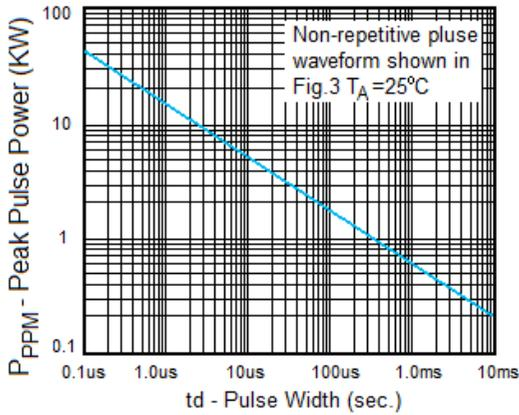

Fig. 1 Peak Pulse Power Rating
- (1) V_{BR} measured after I_T applied for 300 μ s., I_T = square wave pulse or equivalent.
- (2) Surge Current Waveform per Figure 5 and Derate per Figure 1
- (3) A Transient suppressor is normally selected according to the reverse " Stand-off Voltage " (V_{RWM}) which should be equal to or greater than the D.C. or continuous peak operating voltage level.
- (1) V_{BR} measured after I_T applied for 300 μs., I_T = square wave pulse or equivalent.
- (3) A Transient suppressor is normally selected according to the reverse " Stand-off Voltage " (V_{RWM}) which should be equal to or greater then the D.C. or continuous peak operating voltage level.